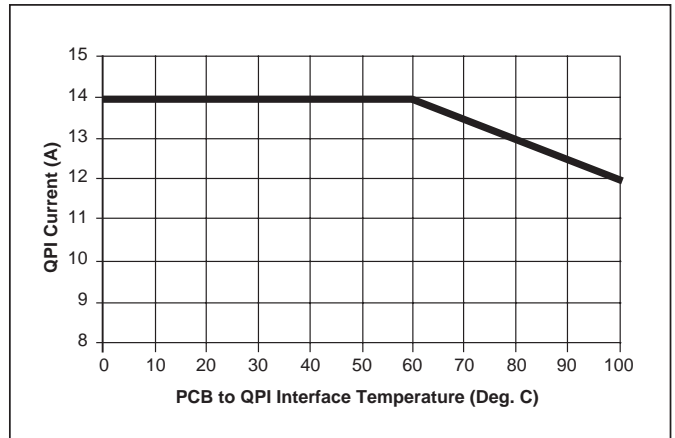

Figure 5 – QPI-5 current derating curve.
- -40° to +100°C PCB temperature (See Fig. 5)
Note 2 - Refer to Figure 5 for current derating curve.
The current derating curve shown in *Figure 5* should be used when the PCB temperature in close proximity of the QPI-5 exceeds 60°C. For example, the QPI-5 will support up to 13 A of current or 308 W from a 28 Vdc bus at an 80°C interface temperature. Temperature should be measured at the PCB interface to the QPI-5 on the Bus +/- pads or the QPI+/- pads. Refer to *Figures 9, 10 & 12* for PCB layout recommendation.